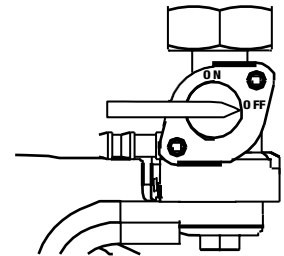
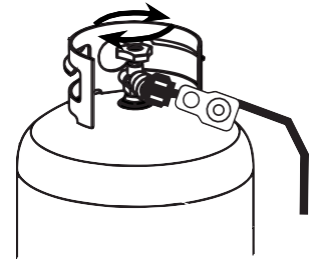

Fig 11
Fig 14
- Turn the Fuel Select Switch point to LPG (Fig 11)
3. If you operate with gas, switch the gasoline valve to OFF position(Fig 11); Or if you operate with propane, shut -off the propane tank valve(Fig 14).